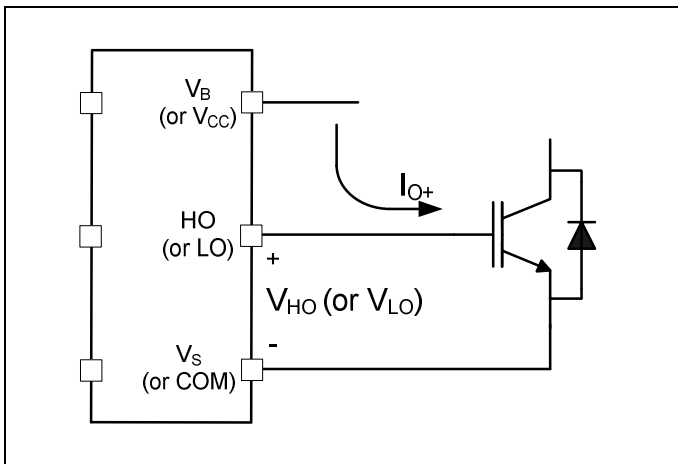
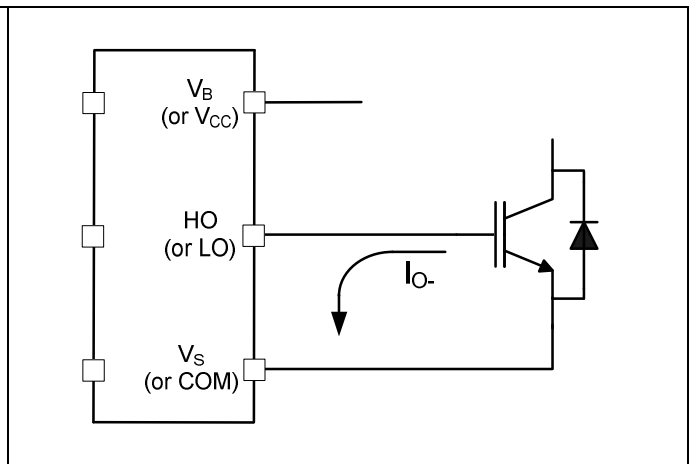

Figure 4 HVIC Sourcing current
Figure 5 HVIC Sinking current
The 2ED2108 (4) S06F (J) HVIC is designed to drive MOSFET or IGBT power devices. Figure 4 and Figure 5 illustrate several parameters associated with the gate drive functionality of the HVIC. The output current of the HVIC, used to drive the gate of the power switch, is defined as I_{O+} . The voltage that drives the gate of the external power switch is defined as V_{HO} for the high-side power switch and V_{LO} for the low-side power switch; this parameter is sometimes generically called V_{OUT} and in this case does not differentiate between the high-side or low-side output voltage.